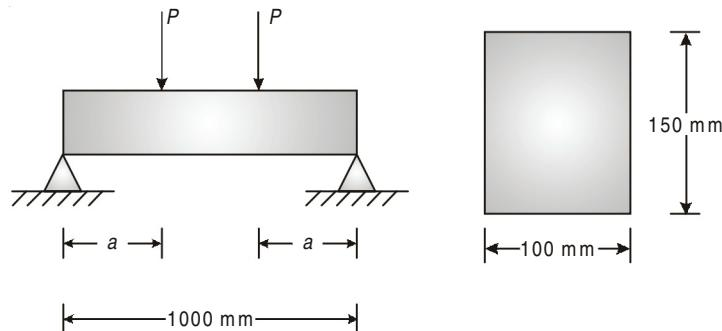

Fig. 3.23
- 3.21.** A $100 \text{ mm} \times 150 \text{ mm}$ wooden bar is to be symmetrically loaded with two equal forces P, P (Fig. 3.23). Determine the position of loads and their magnitude when the bending of 10 MPa and shearing stress of 2.5 MPa are just reached. Neglect the weight of the beam.